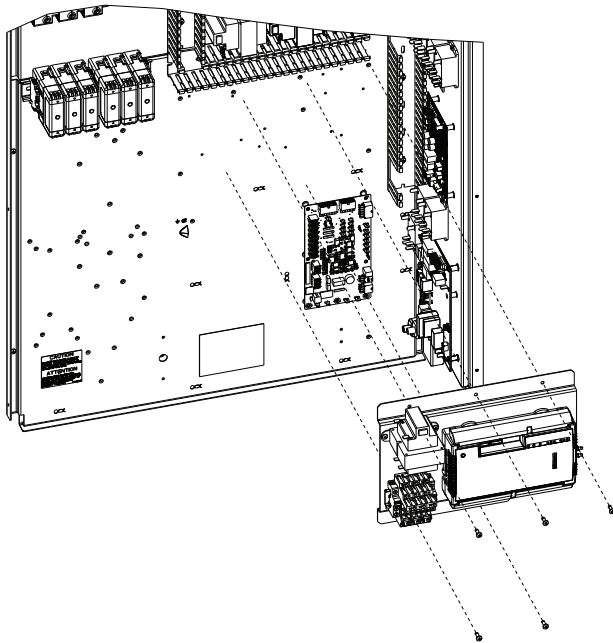

Fig. 4 — Mounting Bracket Installation
3. Using five No. 10 self-drilling screws, install the Mounting Bracket in Control Box. (See Fig. 4.)